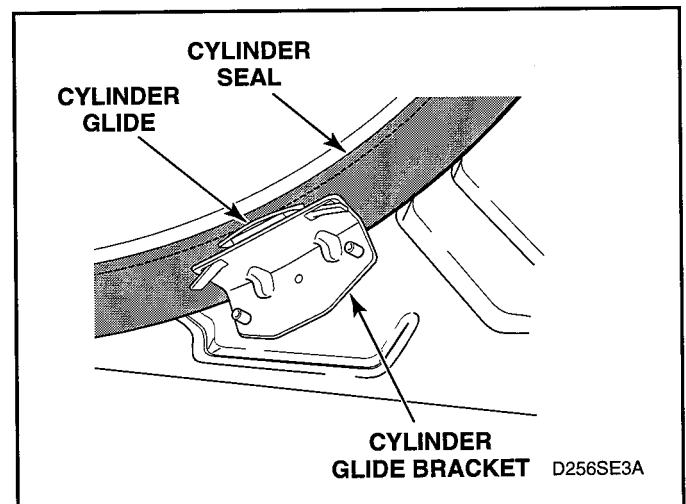

Figure 5-25
- i. Cylinder Glides and Glide Bracket (See figure 5-25.)